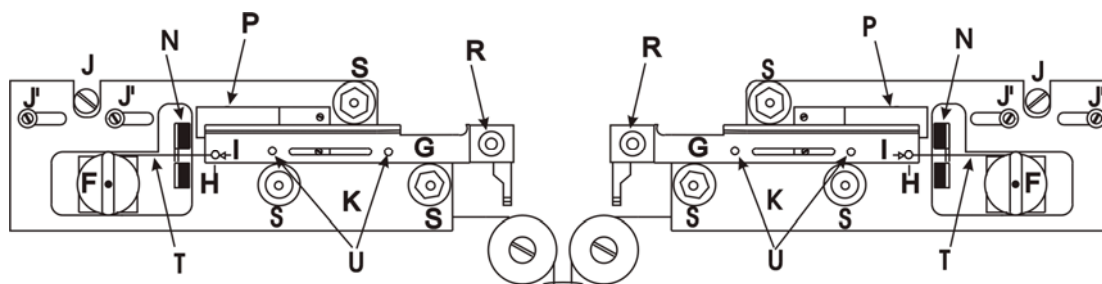

Figure 1-5. Upper cable pulley assembly.
This assembly guides the Pulling Cables (T in Figure 1-5) from the Puller Bars (G in Figure 1-5) to the centrally located (and concealed) Lower Cable Pulley Assembly. Note that the Upper Cable Pulley Assembly is attached to its panel by two screws, in slots (J' in Figure 1-5), and contains a large eccentric adjustment screw (J in Figure 1-5). This eccentric screw is used to adjust cable ‘tension’. Its use is covered in the Maintenance Section, and changes to the settings should not be performed without the supervision of Sutter Instrument Technical Support.
Panels, Left And Right (K in Figure 1-5) The panels are the angled surfaces that provide mountings for the Puller Bars and their Bearings, the Spring Stops, the Bumpers, and the Upper Cable Pulley Assemblies. Except for minor differences in shape, the left and right Panels are mirror images of each other. Note the three socket-head cap screws that attach each Panel to the base plate top. These screws are used to align the Puller Bars. Their adjustment, if necessary, is covered in the Maintenance Section. Contact Sutter Instrument Technical Support for more instructions on how the panels are aligned.
Bumpers (N in Figure 1-5) The Bumper stops the motion of its associated Puller Bar. Each Bumper also prevents impact forces from breaking pipettes.
Spring Stops (P in Figure 1-5) The Spring Stops are one-way catches that catch the Puller Bars as they rebound off the Bumpers so as to prevent pipette tip collision.
Puller Bars (G in Figure 1-5) This assembly consists of the puller bar, threaded post, electrode clamp knob, and cable retaining screw. The cable retaining screw (H) holds the cable in a shallow groove (I) at the end of the puller bar, and forms the ‘resistance’ against which the cable ends pull. The puller bar is made of
in Figure 1-5)**